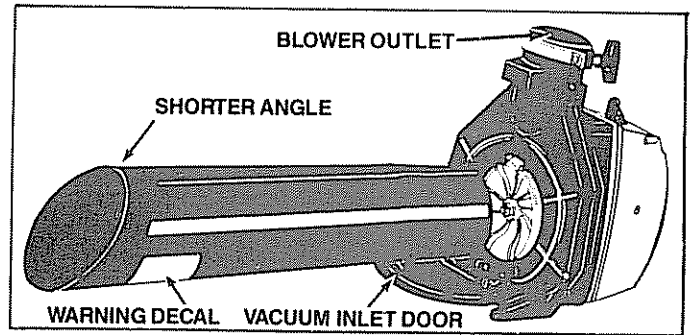

Figure 4
- Hold open the vacuum inlet door and slide the straight end of the suction tube into the opening until it bottoms out (about 3/4 inch). Figure 4.
**NOTE:** Make sure the warning decal and shorter angle of the suction tube is aligned with the blower outlet as shown in Figure 4.